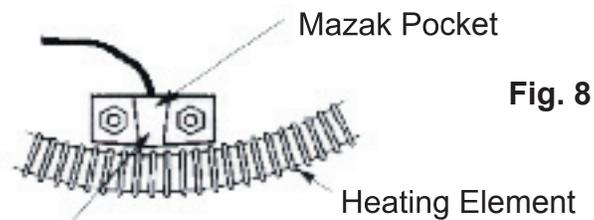

Fig. 8
2. When refitting thermistor pocket, apply compound to base of the body centrally between studs. (Small quantity of compound - 3mm bead size). Mazak pocket must be pushed towards element. Excess compound **must not** touch the element - See Fig. 8.